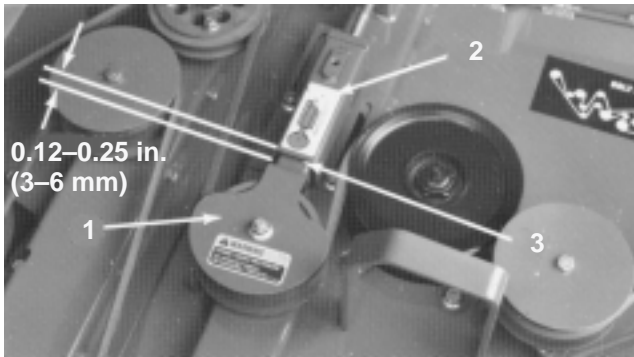

Figure 71
2. Measure the length of the exposed black plastic sleeve (Fig. 71). If distance is 0.12–0.25 in. (3–6 mm), spring loaded idler is properly adjusted and belt tension is correct. If dimension is not correct, proceed to next step.